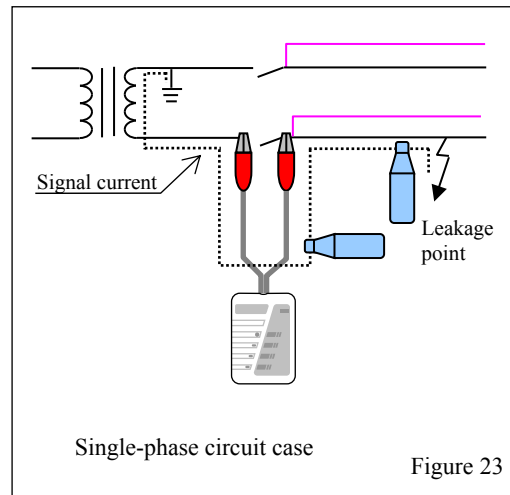

Figure 23
- (1) Turn off the breaker or the earth leakage circuit breaker.
- (2) Connect the transmitter to each phase of the earth leakage circuit breaker, and then connect the transmitter to the phase that the operation LED blinks as shown in the Figure 23 and 24.
- In cases of Figure 23 and 24, the earth leakage circuit breaker may trip when the breaker is located at the power side of transmitter connection point; the alarm may be activated when the earth leakage relay whose setting value is 200mA or less is located at the power side of transmitter connection point.